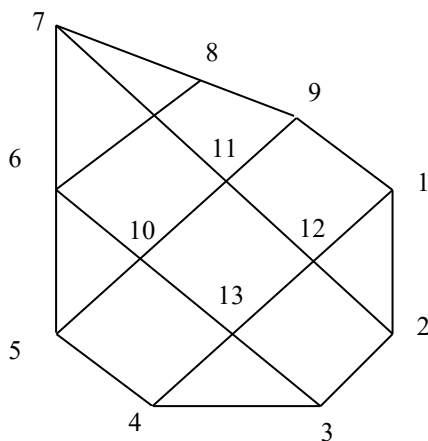
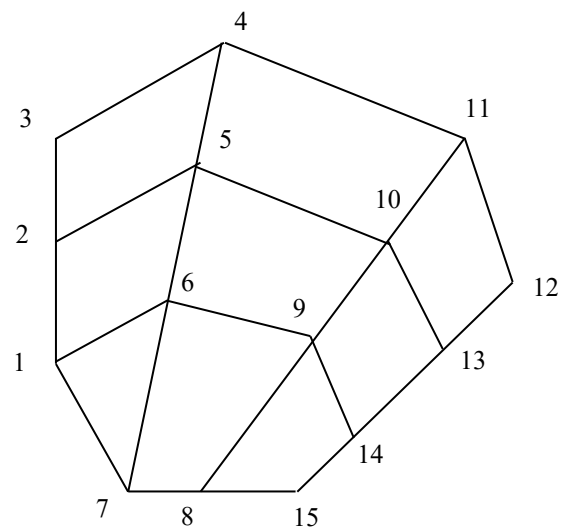

Figure 8
Figure 9
- (5). (a). Two plates shown in **Figure 8** and **Figure 9**, shall be analysed as a plane strain problem. Both plates are divided into 9 elements. Each node has been labelled accordingly. Calculate the bandwidth, $B = (R+1) \times \text{NDOF}$ for the plate assuming two degrees of freedom at each node.